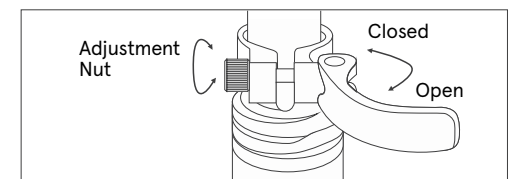

Fig. 11
1. Open the seat post quick release lever (**Fig.11**). Insert the seat post into the seat tube to sufficient depth so that the minimum insertion line is no longer showing.